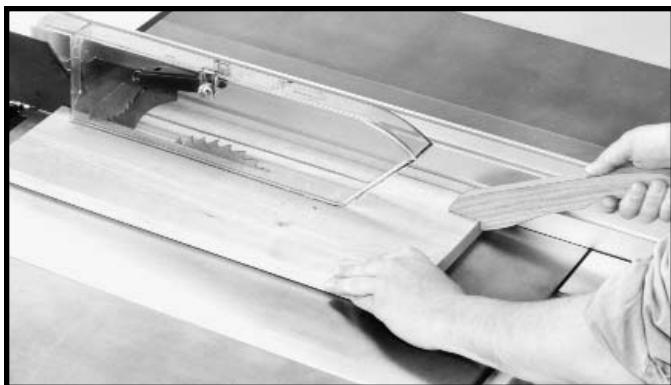

Fig. 50
**CAUTION** If the ripped work is less than 4 inches wide, a push stick should always be used to complete the feed, as shown in Fig. 50. The push stick can easily be made from scrap material as explained in the section "CONSTRUCTING A PUSH STICK."